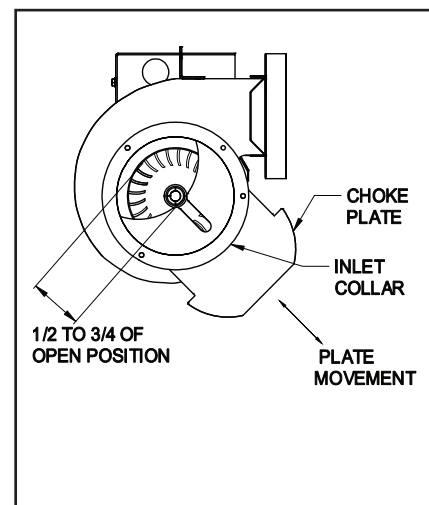

Figure 9
4. Secure the choke plate into position by tightening the screws on the inlet collar (See Figure 9)